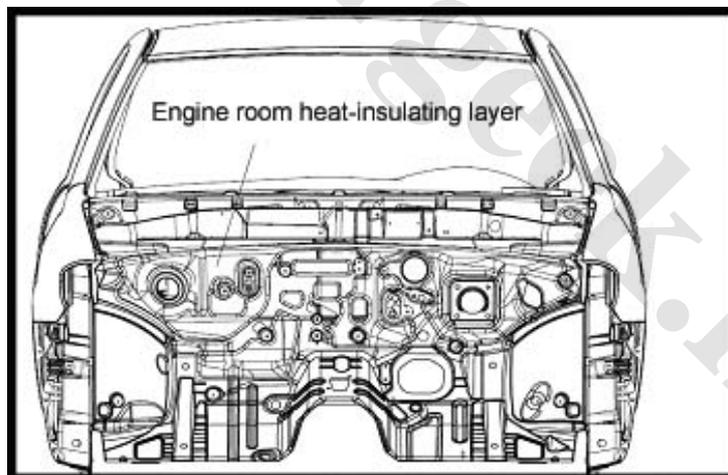

Fig. 7-31
(2) Install two buckles on the each side respectively. Engine room heat-insulating layer, see Fig. 7-31.